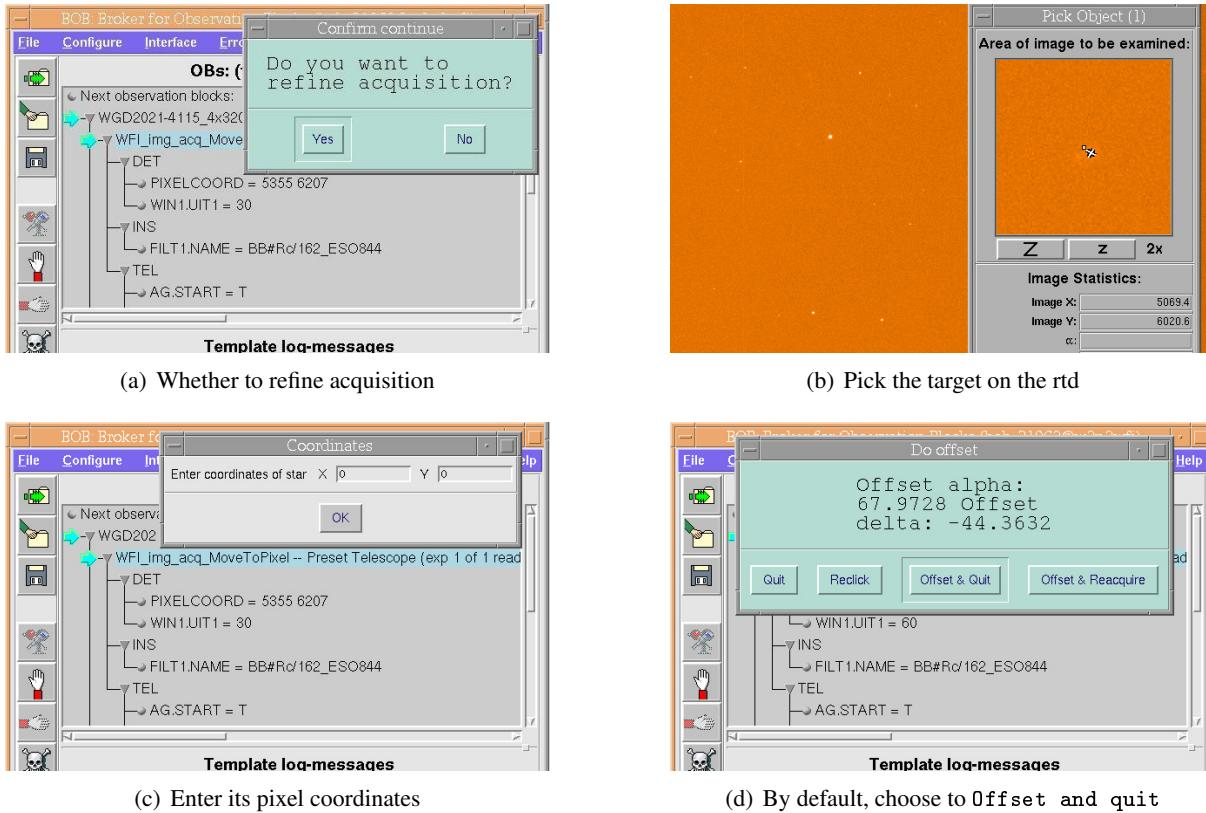

Figure 6.1: Refining the WFI acquisition for the WFI_img_acq_MoveToPixel template.
- B. Accept or decline refining by answering the pop-up Confirm continue (Fig. 6.1(a), p. 56)
- C. Pick target (Fig. 6.1(b), p. 56)
- D. Enter coordinates on pop-up Coordinates (Fig. 6.1(c), p. 56)
- F. Examine the offset proposition on pop-up Do_offset (Fig. 6.1(d), p. 56)
- G. Answer pop-up Do_offset (Fig. 6.1(d), p. 56)